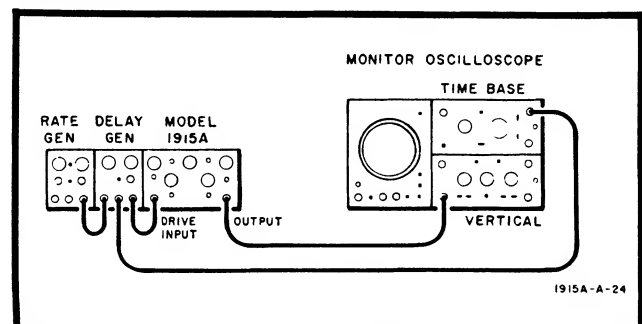

Figure 5-16. Adjustment Test Setup
- Connect equipment as shown in Figure 5-16.